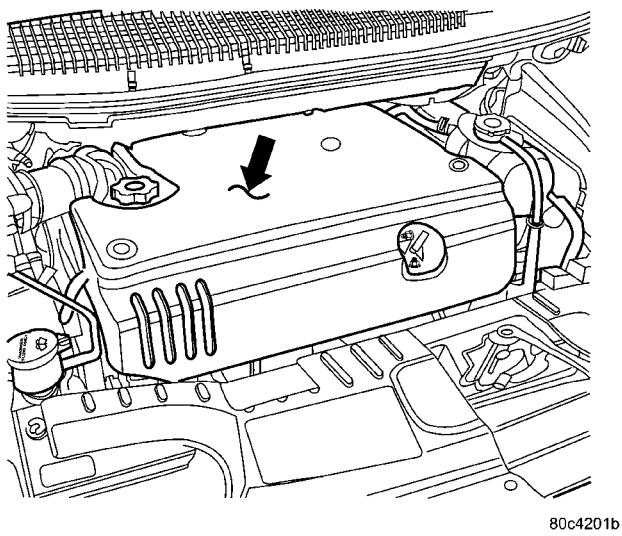
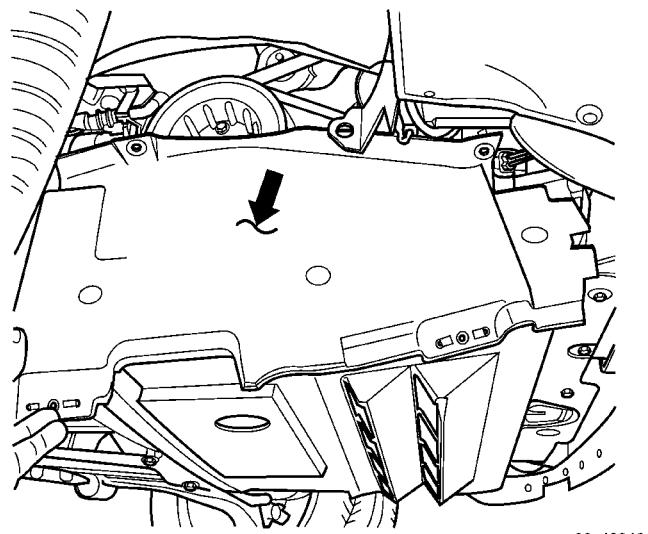

Fig. 2 ENGINE COVER
Fig. 3 SPLASH SHIELD
(2) Remove the engine cover (Fig. 2).
(3) Raise vehicle and support.
(4) Turn wheels to the right. Remove the right front splash shield (Fig. 3).
- (10) Install the right front splash shield (Fig. 3).
- (11) Lower vehicle.
- (12) Install the engine cover (Fig. 2).